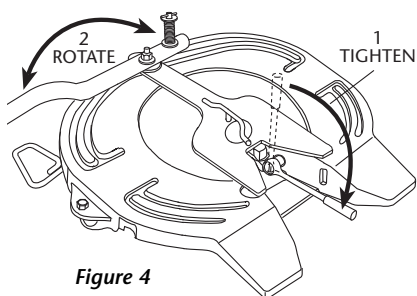

Figure 4
4. Using a 15/16" socket, tighten the locks by turning the lock adjustment bolt clockwise 1/4 turn at a time. Remove the socket wrench from the bolt and rotate the lock adjustment tool, as shown in *Figure 4*, to check for resistance between the lock and lock adjustment tool.
2. Screw handle into threaded safety bar making sure handle grip is oriented towards ramps of wheel and tighten jam nut (Figure 4 & Figure 5) (Item 3).